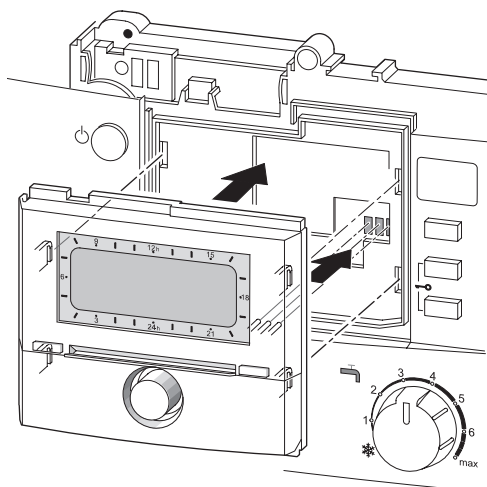

Fig. 4 Insert TD 200 in the guides
- Installation of the TD 200 automatically creates the bus connection via the three contacts (Figure 4).